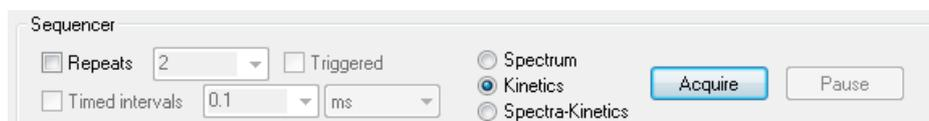

Figure 2.9: the Sequencer panel for absorbance kinetics
2) Ensure that **Kinetics** mode is selected on the **Sequencer** panel (Figure 2.9).